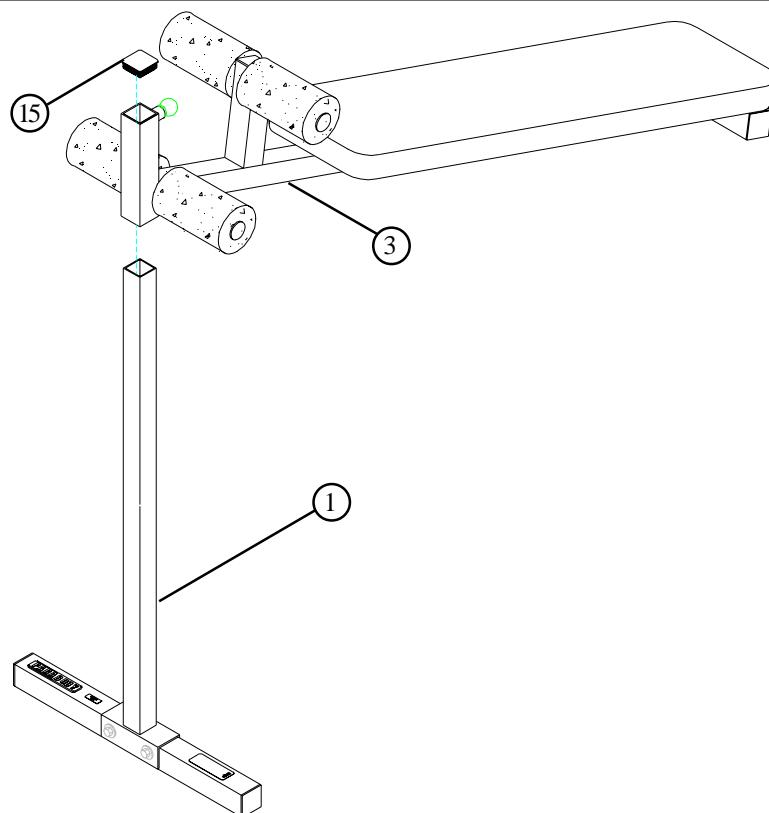

FIGURE 5
- Pull back the SPRING PIN and CAREFULLY slide the MAIN PAD SUPPORT (3) over the FRONT BASE SUPPORT (1) as shown in FIGURE 5.
- Insert one 1-3/4" SQ. END CAP (15) into the end of the FRONT BASE SUPPORT (1) as shown in FIGURE 5.